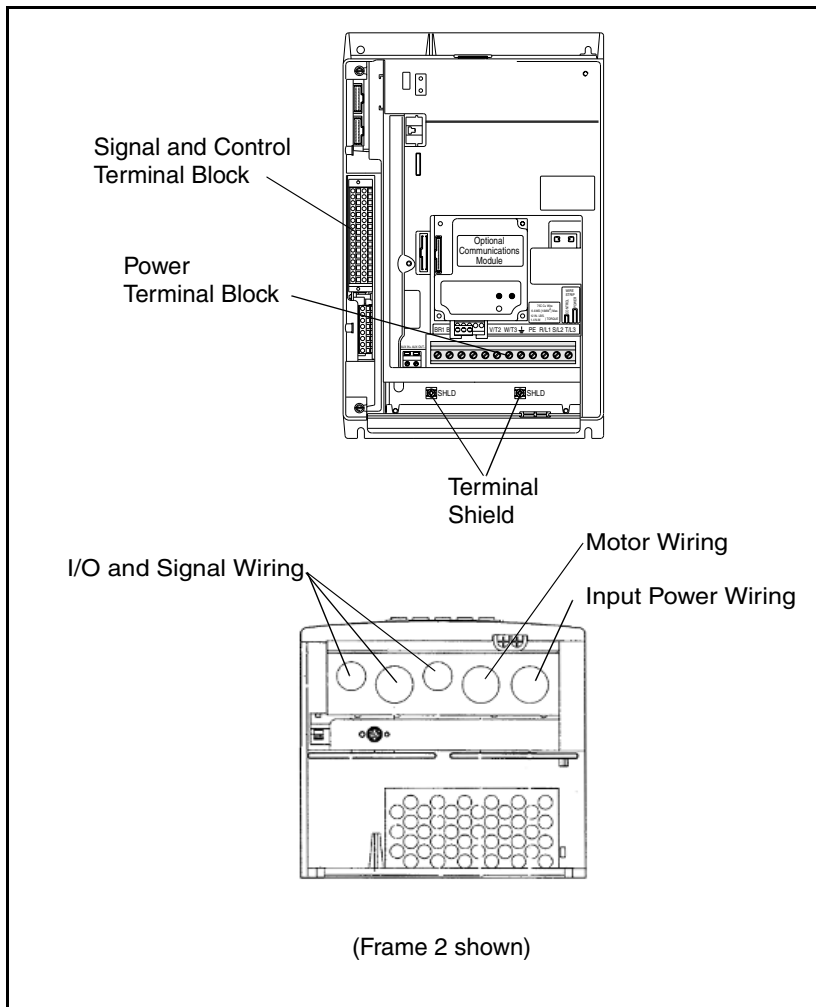
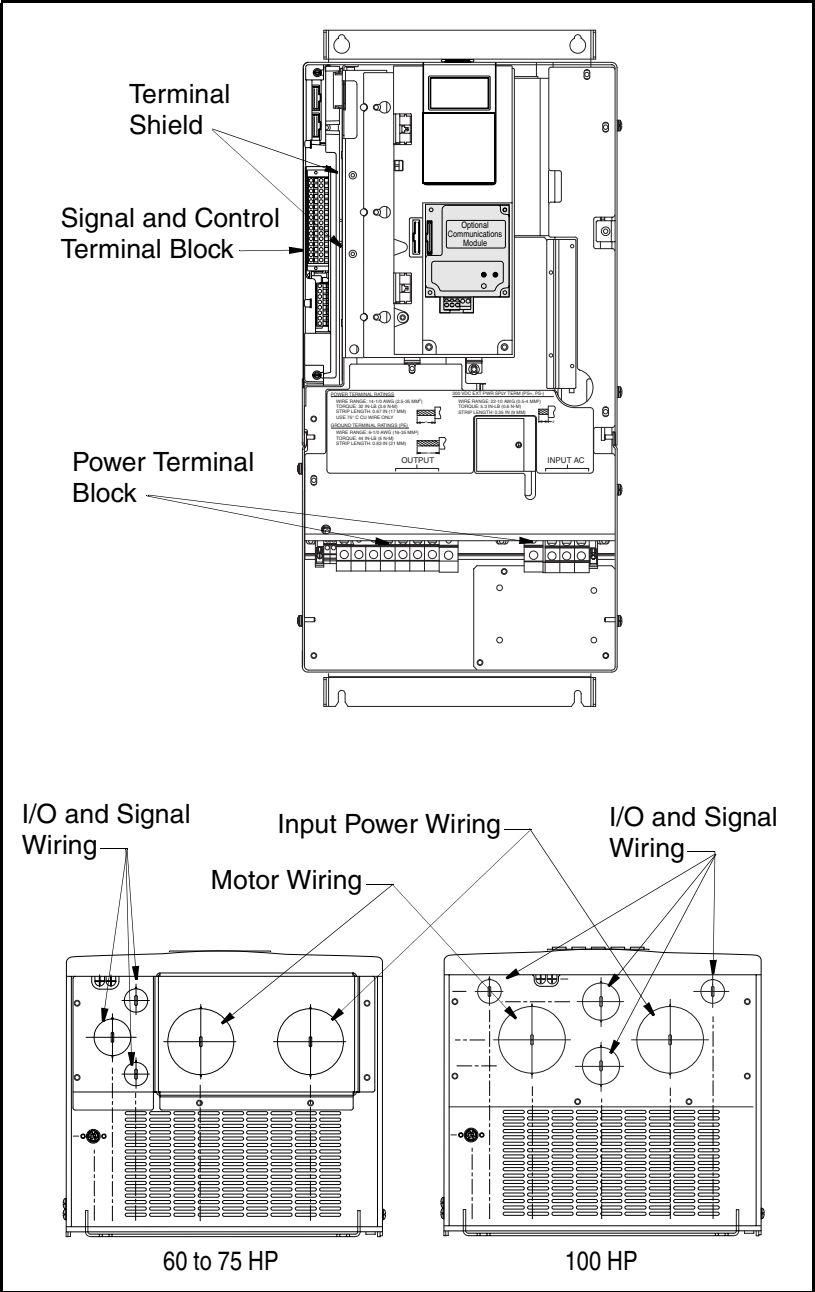

Figure 5.1 – Wire Routing and Terminal Block Locations (Frame 2 Shown)
Figure 5.2 – Wire Routing and Terminal Block Locations (Frame 5 Shown)
Figure 5.1 shows the wire routing, grounding terminal, and power terminal blocks of the SP600 AC drive.
The SHLD terminal located on the Cable Entry Plate provides a grounding point for the motor cable shield. Refer to figure 5.1 or figure 5.2 for location.
Step 1. Wire the three-phase AC output power motor leads by routing them according to drive type. See figure 5.1 to for wire routing locations. Maximum power wiring sizes are shown in table 4.1.
- Step 1. Wire the AC input power leads by routing them according to drive type. Refer to figure 5.1. Maximum power wiring sizes are listed in table 4.1.